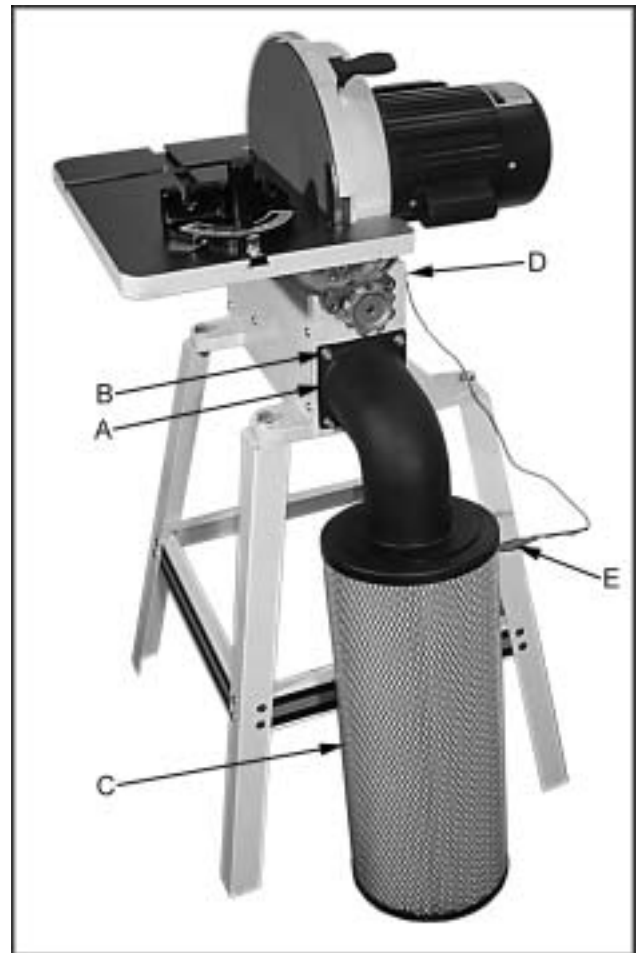

Fig. 9
2. Mount the plastic elbow (A, Fig. 9) to the sander using the same hardware (B, Fig. 9) from the inlet port.
3. Connect the filter (C, Fig. 9) to the elbow and turn counter-clockwise so that it locks in place.
4. Remove the screw (D, Fig. 9) from the sander base. Attach the end of the grounding wire to the screw and thread back in to the base.
5. Attach the grounding clip (E, Fig. 9) to the metal part of the filter. This will prevent static electricity from building up in the filter.
2. Take off the grounding clip and remove the filter (C, Fig. 9) by turning clockwise.